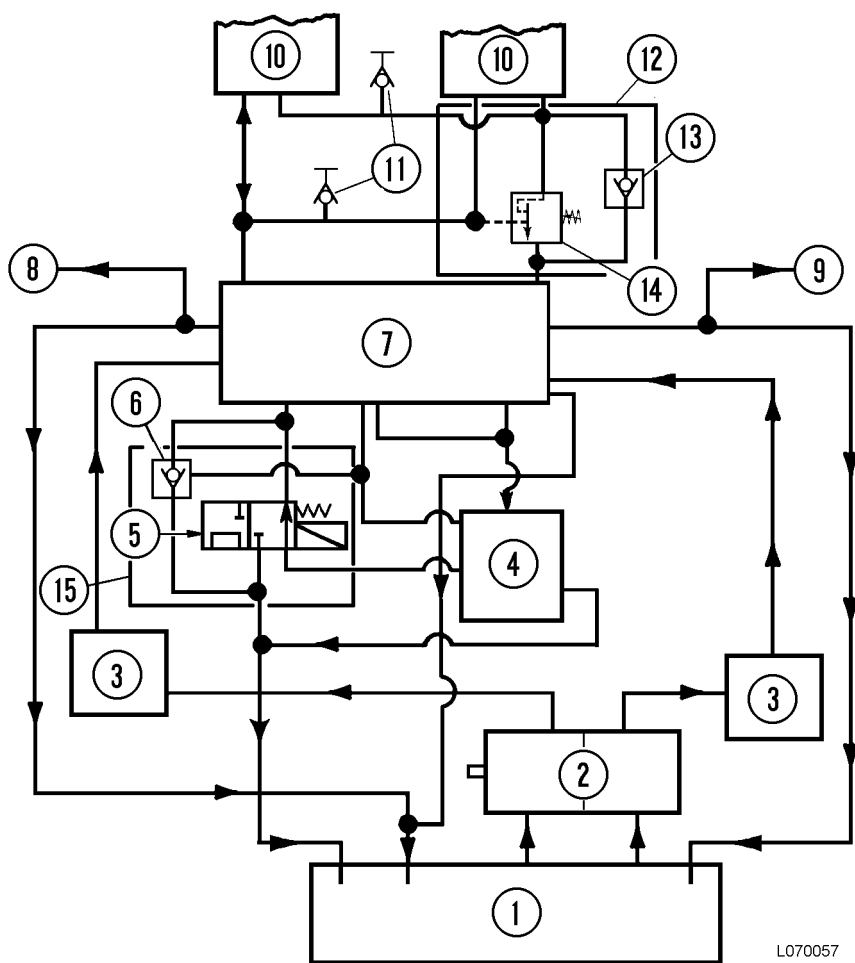

FIGURE 10-1. HOIST CIRCUIT SCHEMATIC
Hydraulic fluid is supplied by a tank (1, Figure 10-1) located on the left frame rail. Hydraulic oil is routed to hoist pump (2). A second pump, coupled to the rear of the hoist pump, supplies oil for the steering and brake systems. The pumps are driven by an accessory drive at the end of the traction alternator.